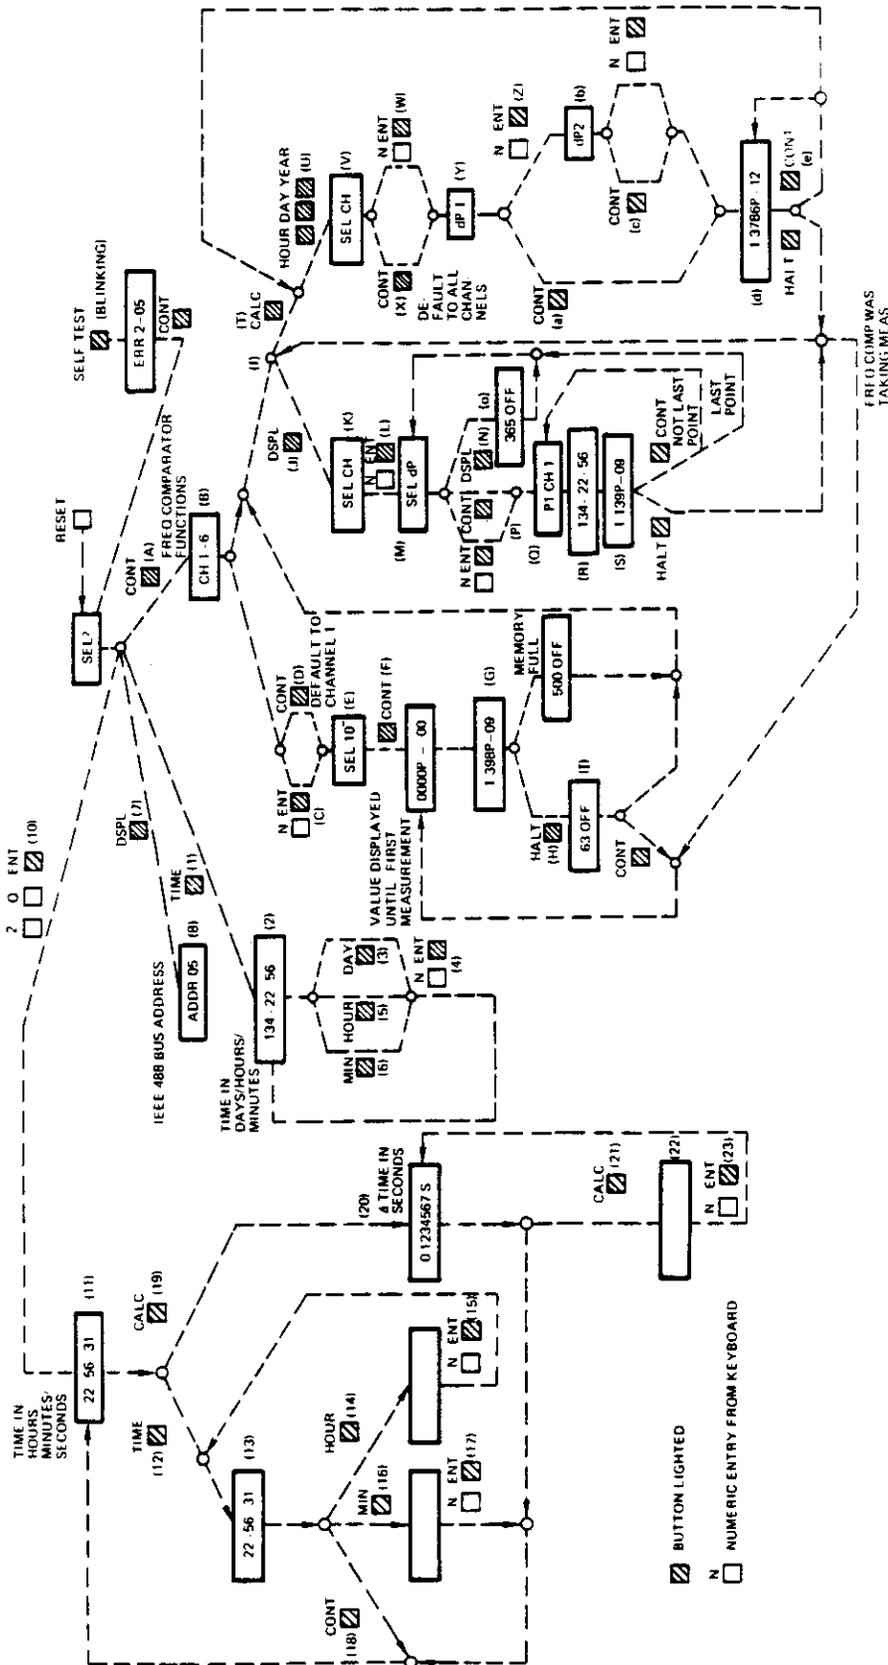

Figure 3.2 Operational Flow Diagram
The following procedures and Figure 3.2 provide the operating instructions for the module controller. Specifically, these instructions tell the operator how to:
The lighted pushbuttons are the only ones that can be used during a routine. The CLR pushbutton only clears the display. In the following procedures, the letters or numbers in parentheses refer to steps on Figure 3.2.
- C. Press lighted CONT pushbutton (A) and CH 1-6 should be displayed (B).
- D. Enter a channel number from 1 to 6 with the keyboard and ENTER function button (C). If only channel 1 is used, 1 is automatically selected by the program, by pressing the CONT button.
- E. Press CONT (D) and SEL  $10^{-7}$  should be displayed (E). Select the desired frequency resolution with the RANGE switch on the AS210-02 Frequency Comparator Module.
- F. Press CONT (F). The frequency offset measurement routine now proceeds. 0000P-00 will be displayed until the first measurement is made. Thereafter, the channel number and frequency offset (error) will be displayed for each measurement as it is made until 500 measurements have been taken. A display of 1 398P-09, as shown in Figure 3.2 (G), indicates a frequency offset of  $398 \times 10^{-9}$  on Channel 1. When 500 measurements have been completed without interruption, the program will halt automatically and 500 oFF will be displayed, indicating that 500 data points have been taken and the program is in an OFF condition. The measurement cycle can also be stopped with the HALT function button. The data point number and oFF will be displayed (I). Measurements can be resumed by pressing CONT.